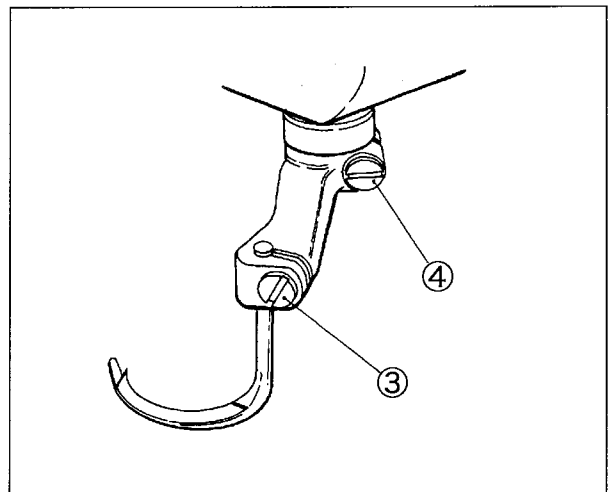

Fig. 6-10
- (1) Loosen the screws ③ and ④ of the spreader holder. (Fig. 6-10)